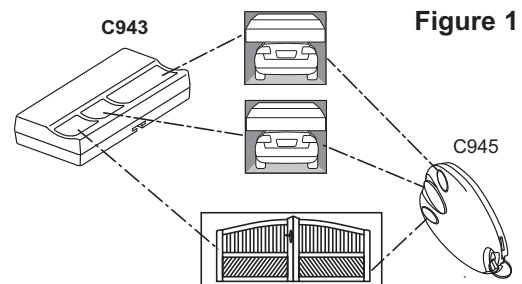

Figure 1
1. Press and hold the button on the hand-held remote (Fig 1) that you wish to operate your garage door. The Orange indicator light on the opener will flash continuously.